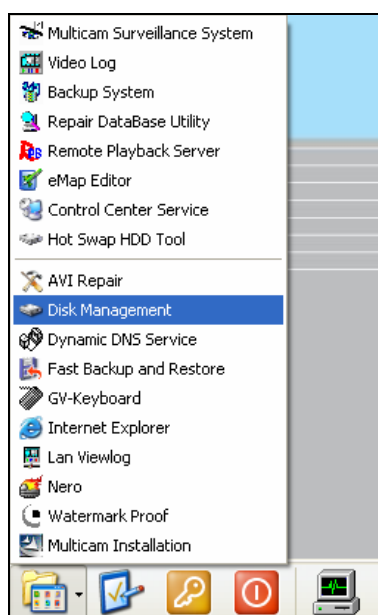

Figure 26
- A. On the GV-Desktop, click the **Programs** button, and select **Disk Management**. See Figure 26.